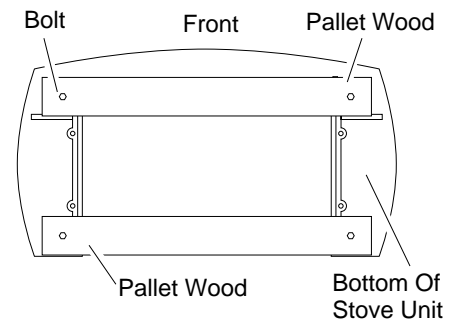

**Figure 6 - Removing Back Panel**
4. Remove back panel from stove and discard (see Figure 6). Use an adjustable wrench or a 10 mm socket. Remove six (6) bolts and washers. Keep bolts and washers to attach brackets when installing fireplace insert into stove body. Dispose of back panel.